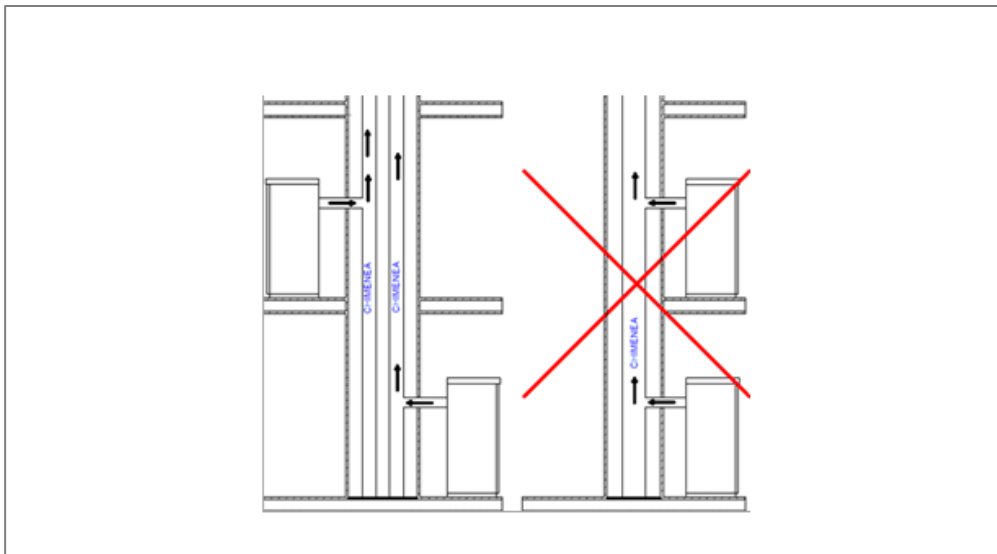

Figure 5
6. If the stove does not heat or smoke, it is always due to a faulty draft. For what is described below see figure 5.